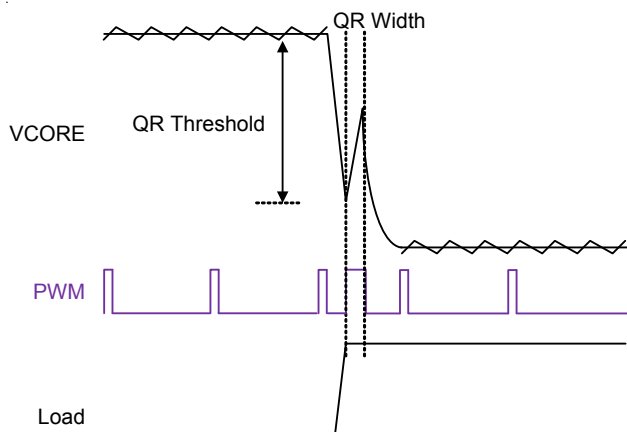
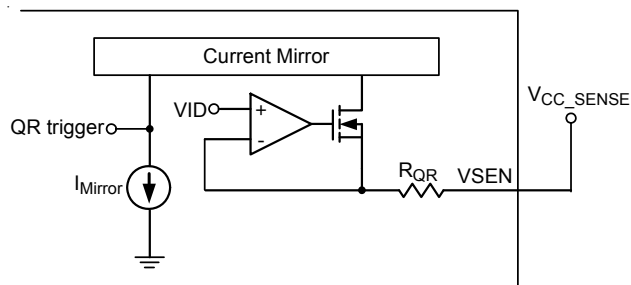

Figure 13. Quick Response Mechanism
Figure 14. Simplified QR Trigger Schematic
When the transient load step-up becomes quite large, it is difficult for loop response to meet the energy transfer. Hence, that output voltage generate undershoot to fail specification. The RT8199B has Quick Response (QR) mechanism being able to help improve this issue. It adopts a nonlinear control mechanism which can enlarge the on time of PWM signal at instantaneous step-up transient load to restrain the output voltage drooping, Figure 13 shows the QR behavior.
The output voltage signal behavior needs to be detected so that QR mechanism can be triggered. The output voltage signal is via a remote sense line to connect at VSEN pin that is shown in Figure 14. The QR mechanism needs to set QR width and QR threshold. Both definitions are shown in Figure 13. A proper QR mechanism set can meet different applications. The SET2 pin is a multi-function pin which can set QR threshold, QR width and ICCMAX.